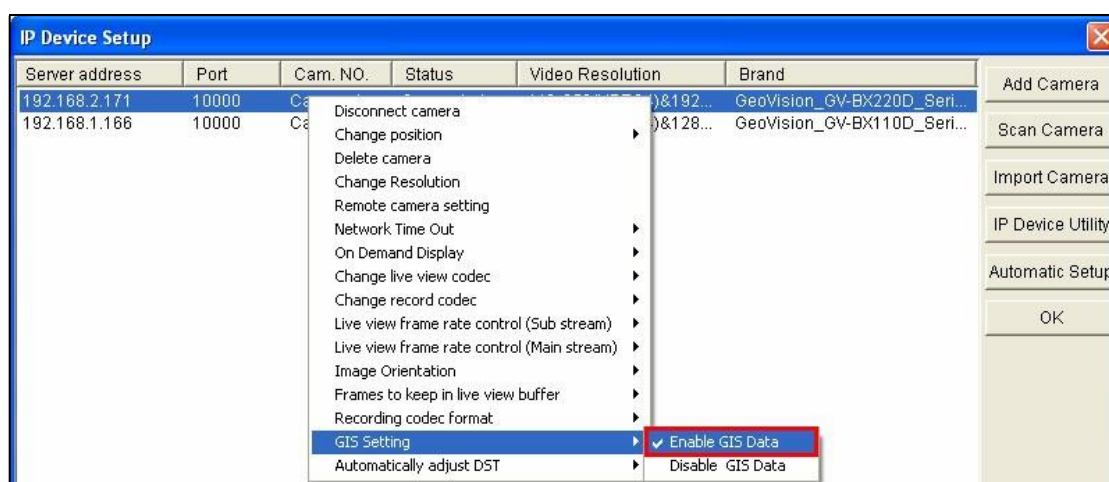

Figure 11-95
2. Ensure **Enable GIS Data** is enabled for desired IP devices to receive the GPS data from those IP devices (Figure 11-95).